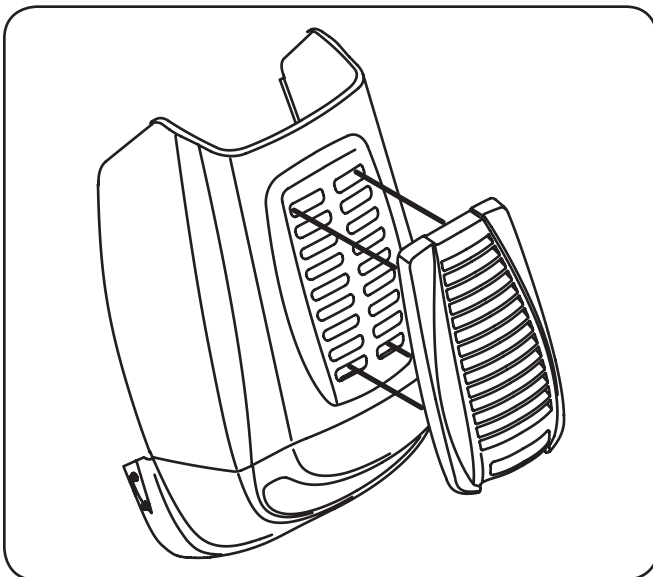

Figure 3-4
3. Line up the four holes in the hood scoop with the four holes visible through the tractor's hood louvres. See Fig. 3-4.